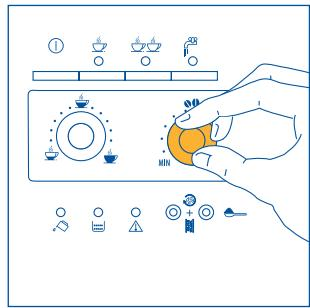

Fig.7
- 2) Adjust the coffee flavor dial (Fig. 7) to set the desired taste of the coffee. Turning the knob clockwise increases the quantity of coffee beans that the machine will grind, and thus makes the taste of the coffee stronger. When using the machine for the first time, the correct position of the knob can be found by trial and error. Make sure not to turn it too far clockwise, otherwise the coffee will be delivered too slowly (in drips), in particular when preparing two cups of coffee.
NOTE 2: If the coffee is delivered too fast and is not creamy enough, turn the coffee flavor dial (fig. 7) clockwise. Proceed by trial and error to find the correct position of the dial. Make sure not to turn the dial too far clockwise, otherwise the delivery may become too slow (in drops), in particular when making two cups of coffee. If, after several coffees, the cream is still not satisfactory, also turn the grinding coarseness regulator (Fig. 17) one click counter-clockwise (see section 6).